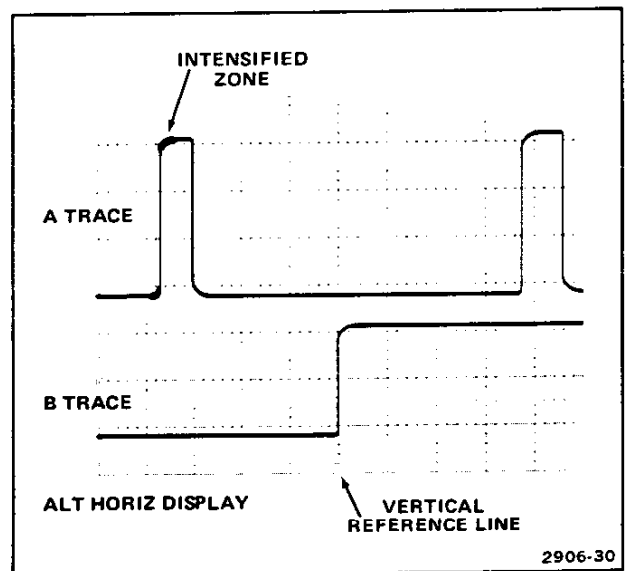

Figure 22. Time difference between repetitive pulses.
7. Adjust the B DELAY TIME POSITION control to move the intensified zone to the leading edge of the first pulse (on the A trace); then fine adjust until the rising portion (on the B trace) is centered at any convenient vertical graticule line (see Figure 22).